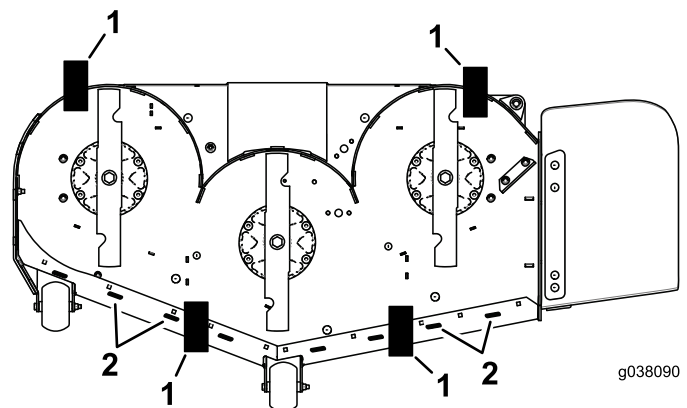

**Figure 84**
11. Place 2 blocks (see Block Height and Rake Table) under the rear edge of the cutting deck skirt; 1 on each side of the cutting deck (Figure 84).